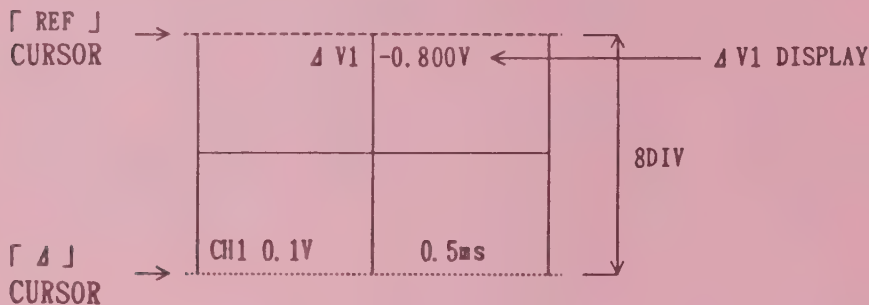

Fig. 6. Location of Display Characters
10. Adjusting Y AXIS CHR GAIN (See Fig. 6)
11. Adjusting Y AXIS CHR CENT (See Fig. 6).